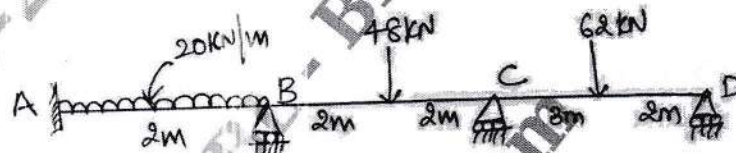

Fig.Q9
- 9 Analyse the beam shown in Fig.Q9 by stiffness matrix method. Draw SFD and BMD.